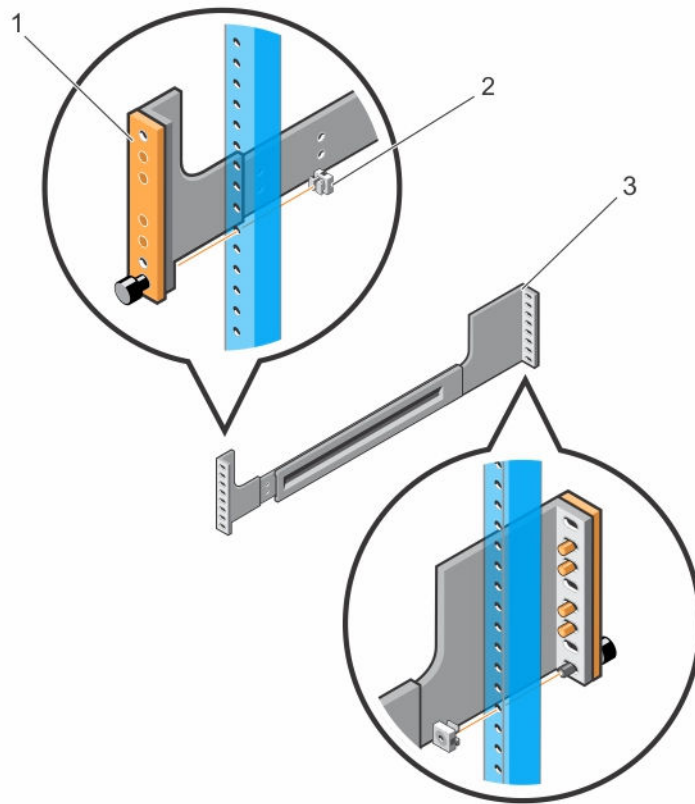

Figure 11. Installing Tool-less Rails in a Non-Threaded-Hole Rack
- b. Install a cage nut (item 2 in Figure 11) in the left front post at the desired height of the thumb screw on the left front rail.
- e. Start with the rear left rail (item 3 in Figure 11); align the thumb screw with the cage nut and holes on the left rear post. Gently press the rear rail end into the rack post and tighten the thumb screw in the cage nut to secure the rail to the post.
- f. Align the thumb screw on the front left rail with the cage nut (items 1 and 2 in Figure 11) inserted in the front post. Press the front end of the rail forward and tighten the thumb screw so that it locks into the cage nut.